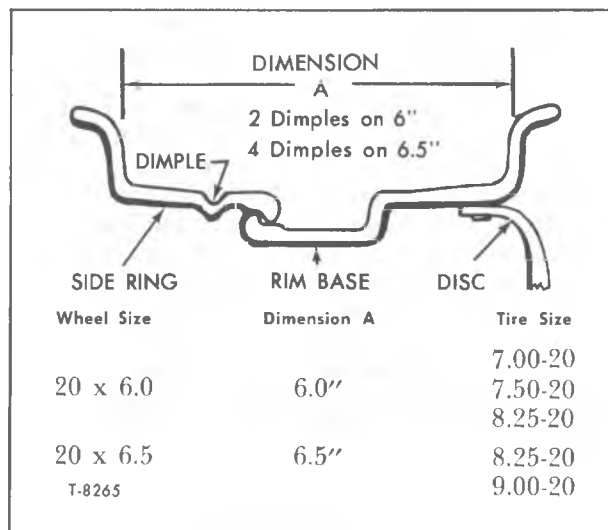

Figure 20—Rim Cross Section Chart
**IMPORTANT:** When servicing wheels, care should be taken to prevent wheel discs, and rims from becoming mixed. Rims should be tagged or marked to assure assembly to correct disc. The following chart is provided (fig. 20) to aid in assembling the correct rim to disc if they should become mixed.